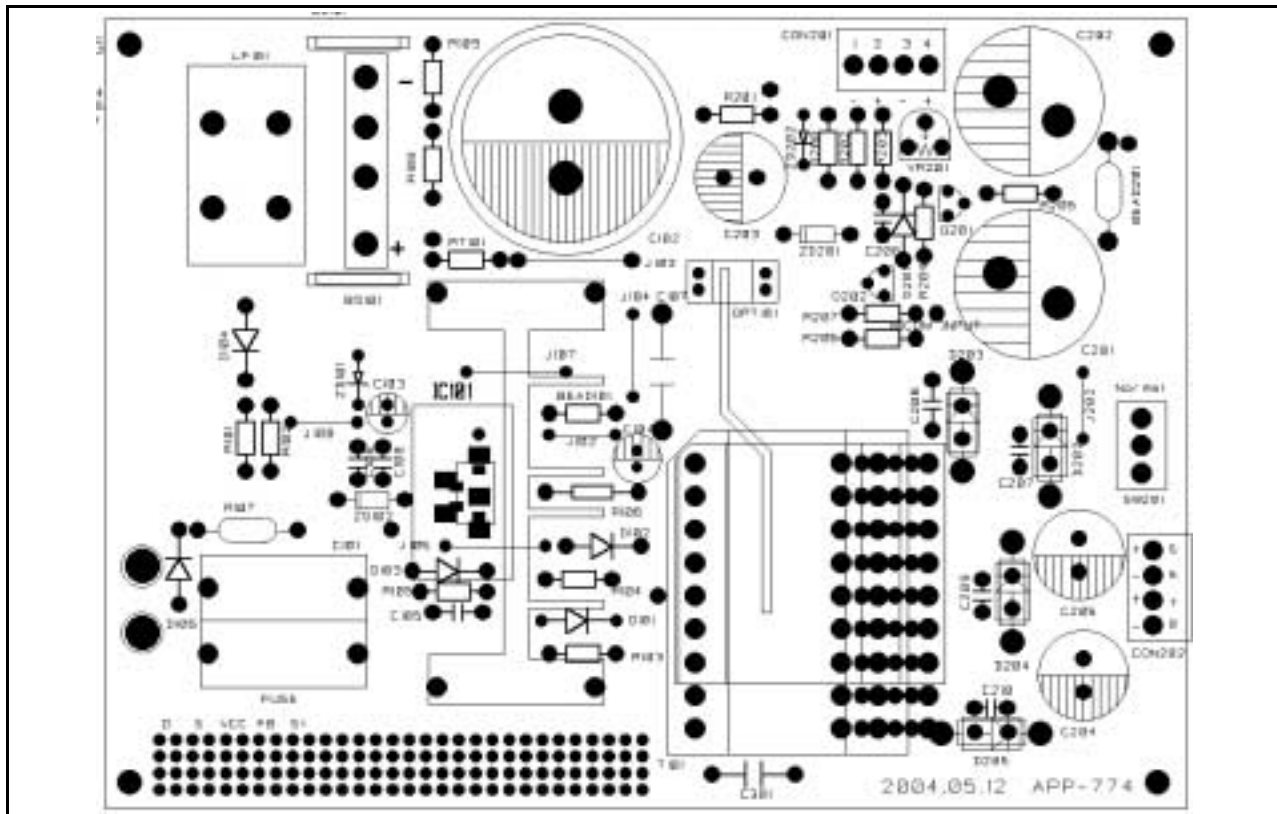

Figure 14. Layout Considerations for FSCQ1565RP
4.2 Abnormal Over Current Protection (AOCP) : When the secondary rectifier diodes or the transformer pins are shorted, a steep current with extremely high di/dt can flow through the SenseFET during the LEB time. Even though the FSCQ1565RP has OLP (Over Load Protection), it is not enough to protect the FSCQ1565RP in that abnormal case, since severe current stress will be imposed on the SenseFET until OLP triggers. The FSCQ1565RP has an internal AOCP (Abnormal Over Current Protection) circuit as shown in Figure 14. When the gate turn-on signal is applied to the power Sense FET, the AOCP block is enabled and monitors the current through the sensing resistor. The voltage across the resistor is then compared with a preset AOCP level. If the sensing resistor voltage is greater than the AOCP level, the set signal is applied to the latch, resulting in the shutdown of SMPS. This protection is implemented in latch mode.